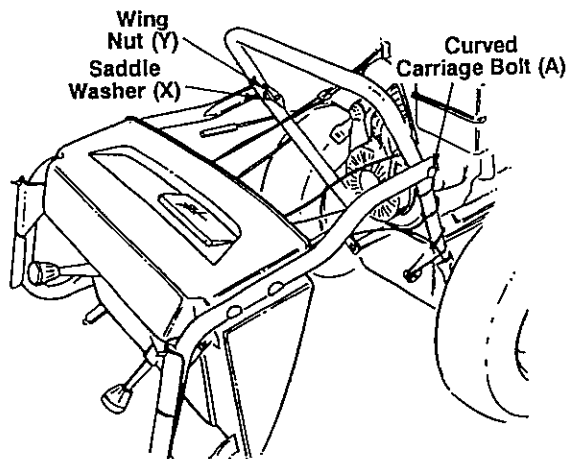

FIGURE 5
- Resting the upper handle control panel assembly on the floor, line up the lower holes in both the upper and lower handle and secure with curved carriage bolts (A), saddle washers (X) and wing nuts (Y). See figure 5.